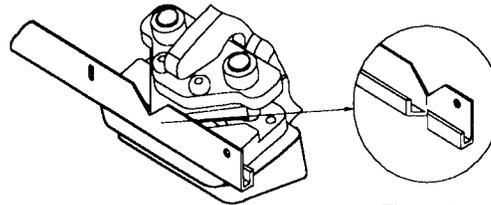

Figure 8
2. Place top cap on flat die shoe. Locate punch tip at mark on wall leg, and cut through top of cap (see figure 8).